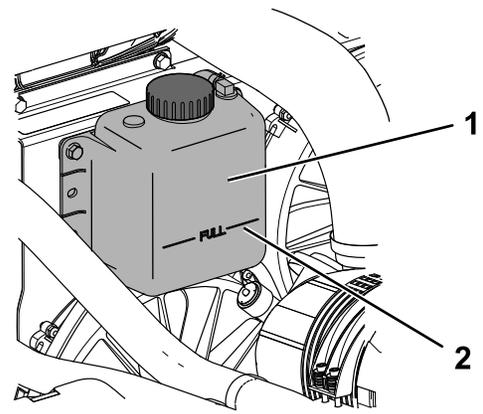

Figure 77
4. Check the coolant level in the expansion tank (Figure 77).